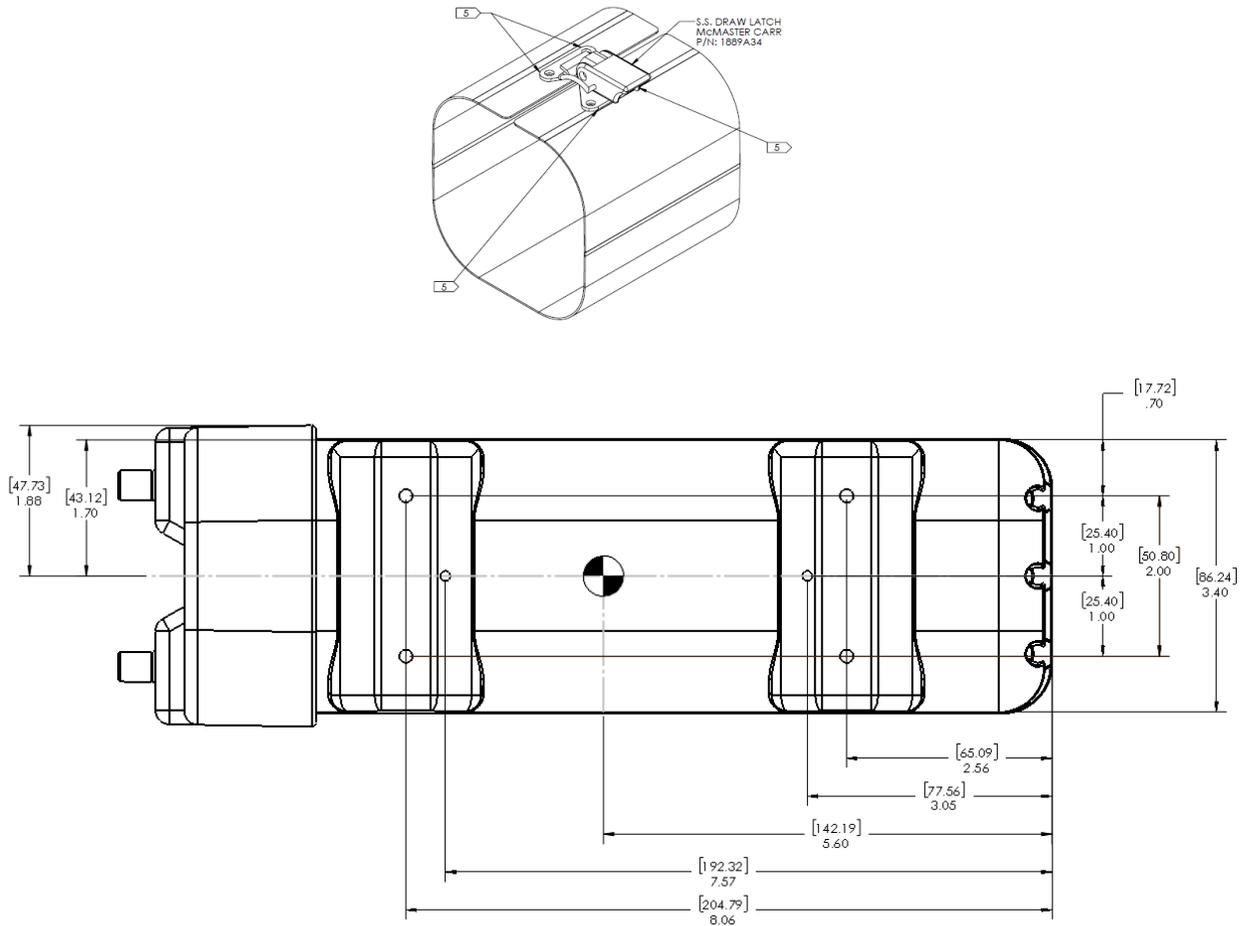

Figure 12 ARTEX ELT 4000 Outline and Dimensions
- 1) Select a suitable location for the ELT mounting tray (see Figure 12).
- 4) Mark and drill the four mounting holes with a #19 or 4.25 mm drill. Refer to Figure 12 for the mounting hole pattern.